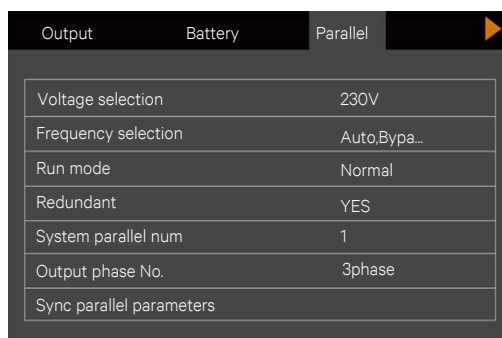

Figure 3-7 Settings for parallel parameters
The parallel parameters for all the UPSs in the parallel system should be set. As shown in Figure 3-7.
- d) For any online UPS, enter the interface shown in Figure 3-7. Set the system parallel No. from 'N' to 'N+1', then click the 'Sync parallel parameters'.